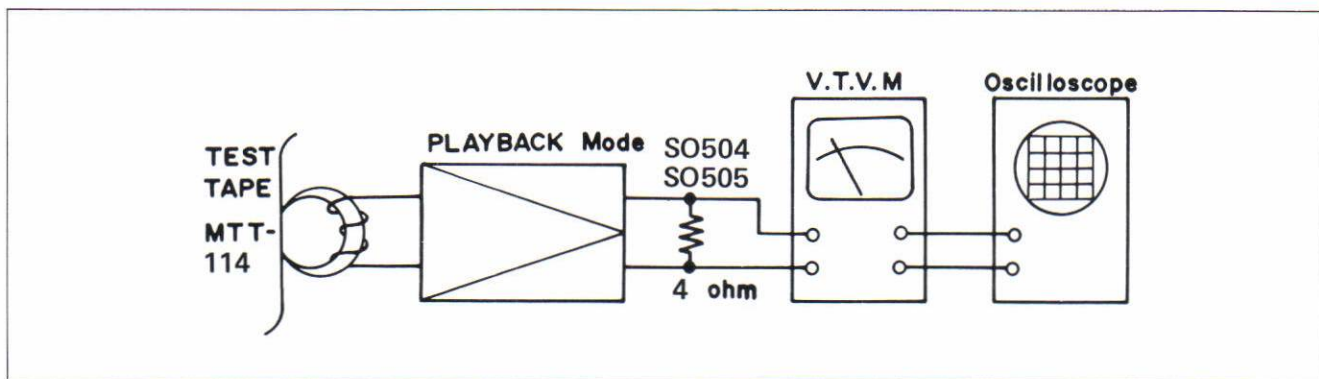

Figure 7
■ RECORD/PLAYBACK HEAD AZIMUTH ADJUSTMENT (Refer to Figure 7).